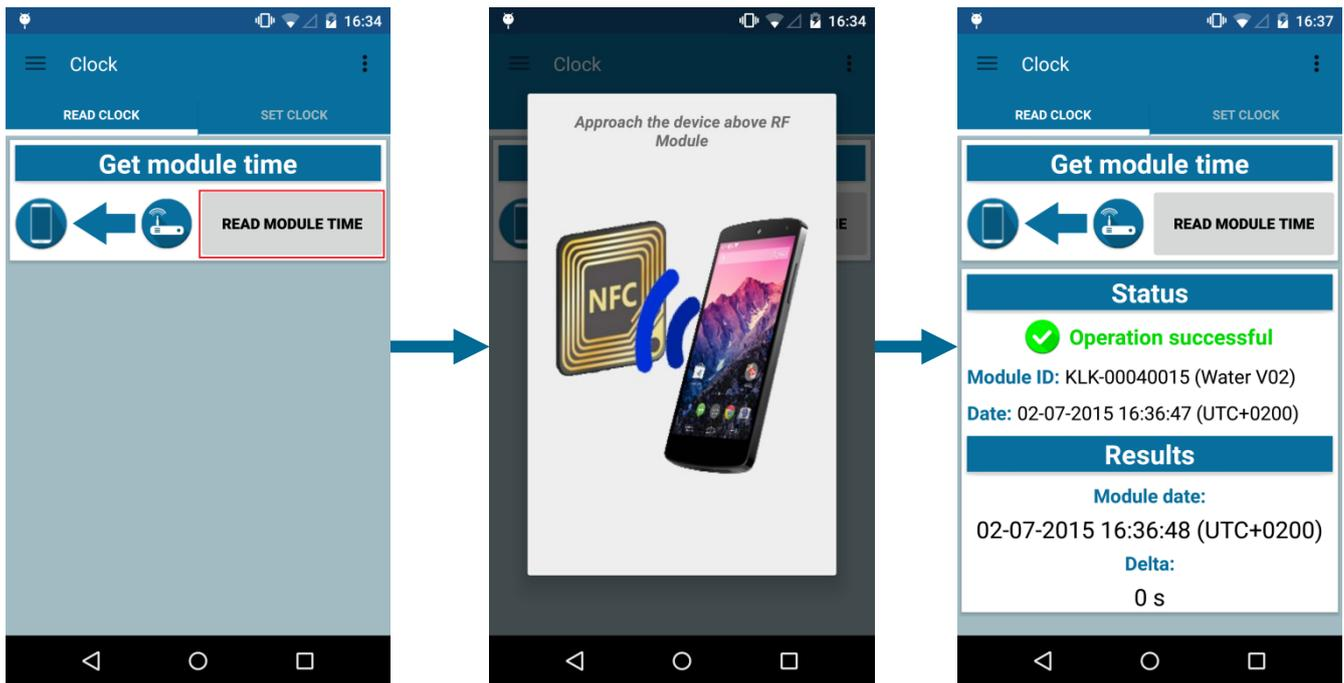

Figure 32: Read clock operation
- The status of the operation, the Wirgrid RF Module 169MHz date and delta with Android device time are displayed on the screen (see Figure 32).